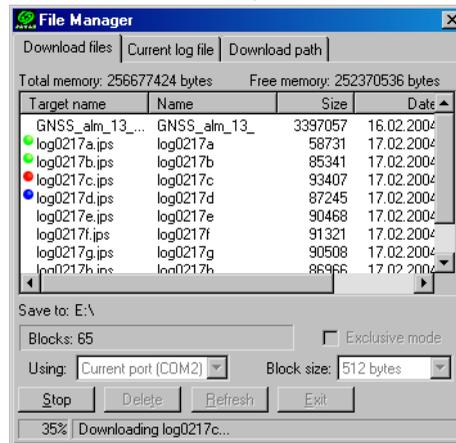

Figure 4-6. Download Files – Status Indicators
9. Click the **Download** button. During the download, status indicators display next to each file (Figure 4-6).